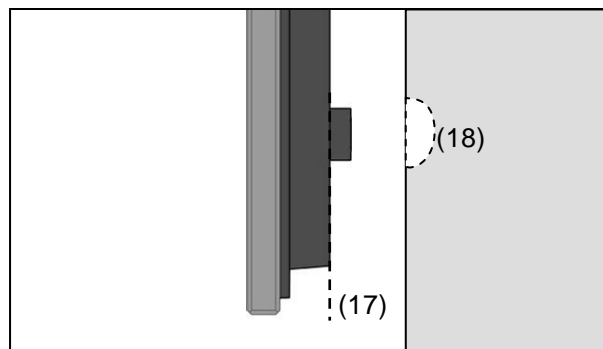

Figure 8
- Remove the lower socket for the setscrew (Figure 8, 17) or if necessary make a recess in the wall (Figure 8, 18) that can hold the socket.